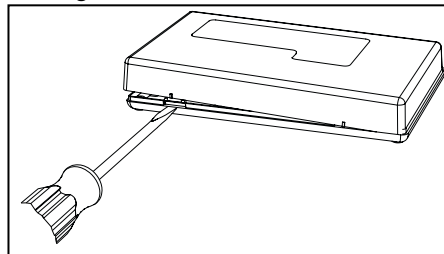

Figure 3.1: Opening the housing
1. Use a slotted screwdriver to press the housing release tab and separate the housing. Refer to *Figure 3.1*.